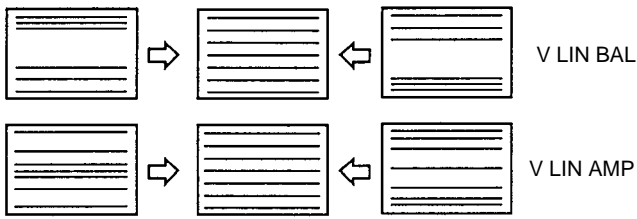

Fig. 1-8
9. Adjust the respective V SIZE, V LIN BAL, V LIN AMP and H SIZE data so that the optimum picture is obtained as shown in Fig. 1-8.